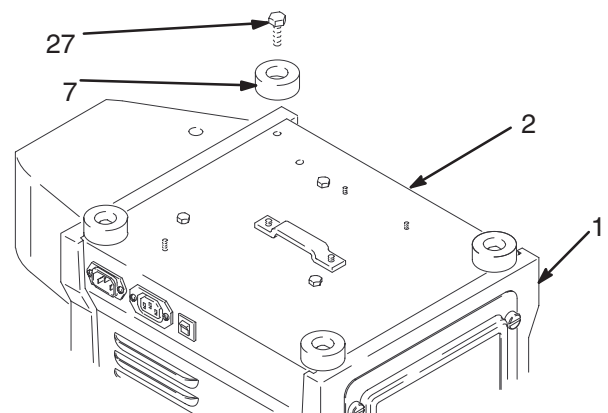
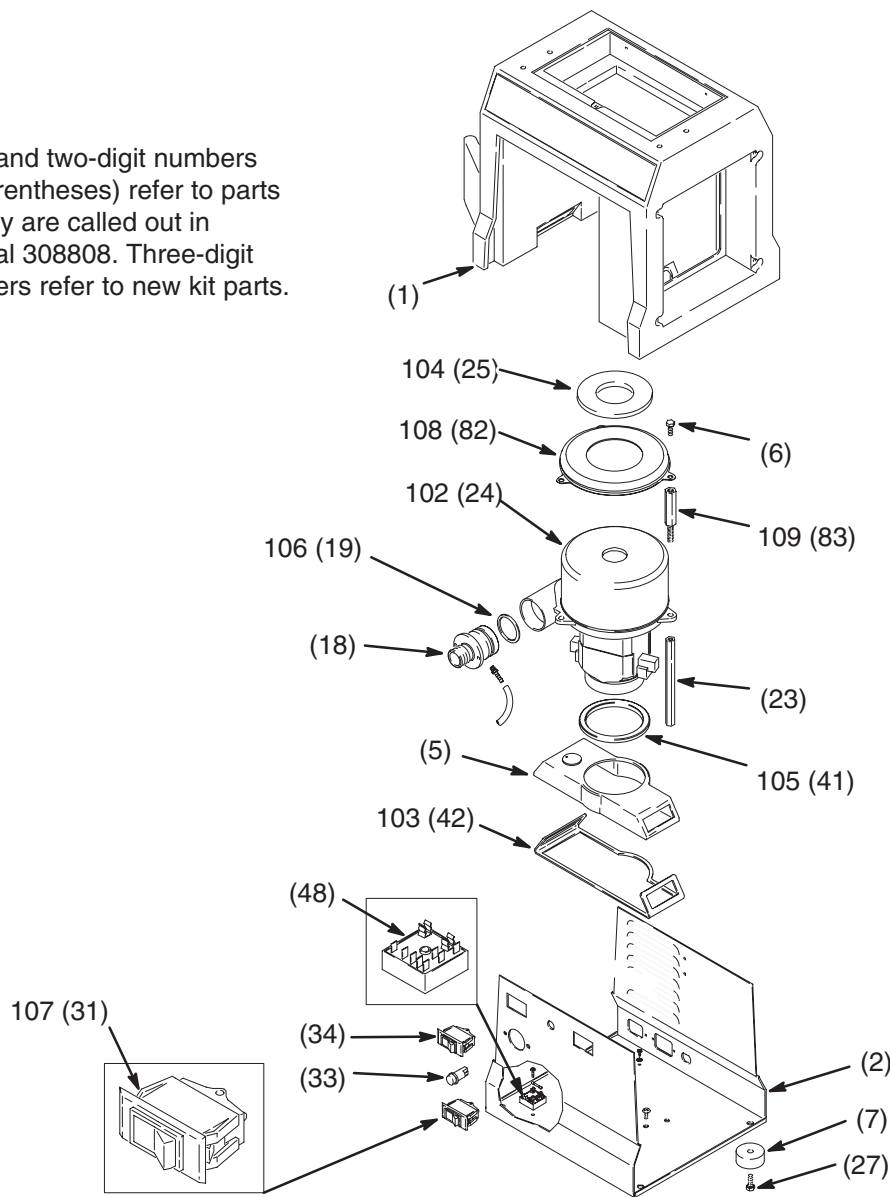

Fig. 2
Fig. 3
Use these procedures to install the 2-Speed Turbine Conversion Kit. See Fig. 2 and Fig. 3 and the **Parts Drawing** in manual 308808.
2. Place turbine upside down on work surface. Remove four cap screws (27) and bumpers (7) as shown in Fig. 2.
3. Carefully lift and remove turbine base plate (2) from cover (1). Place turbine upright on work surface.
- In orientation shown in Fig. 3, install rocker switch (107) in hole left by removed switch (31).
- Connect male tab end of one white wire (110) to spade terminal 2 of switch (107). Position spade to outside of switch to ease connection of second wire. Connect other end of white wire to spade terminal 5 of red rocker switch (34).
1. Fig. 3. Replace turbine gaskets (41 and 42) with gaskets (105 and 103) on turbine duct (5).
2. Place 2-speed turbine (102) alongside turbine base plate (2), standing it on end (large-diameter end up).
3. Connect black wire from turbine to spade terminal wire connected to terminal 2 of red rocker switch (34).
4. Connect white wire from turbine to spade terminal 5 of rocker switch (107).
5. Connect yellow wire from turbine to spade terminal wire connected to terminal 1 of rocker switch (107).
6. Connect blue wire from turbine to spade terminal 4 of rocker switch (107).
7. Connect red wire from turbine to spade terminal wire connected to terminal 2 of rocker switch (107).